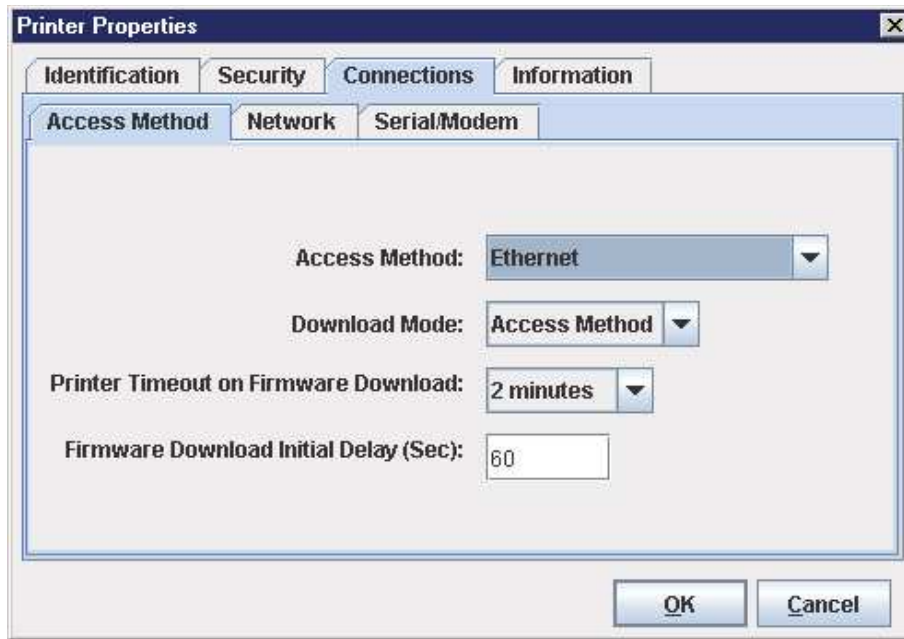

Figure 6 Connections: Connections Tab – Access Method Sub-Tab
11. Click the **Access Method** sub-tab. See Figure 6.